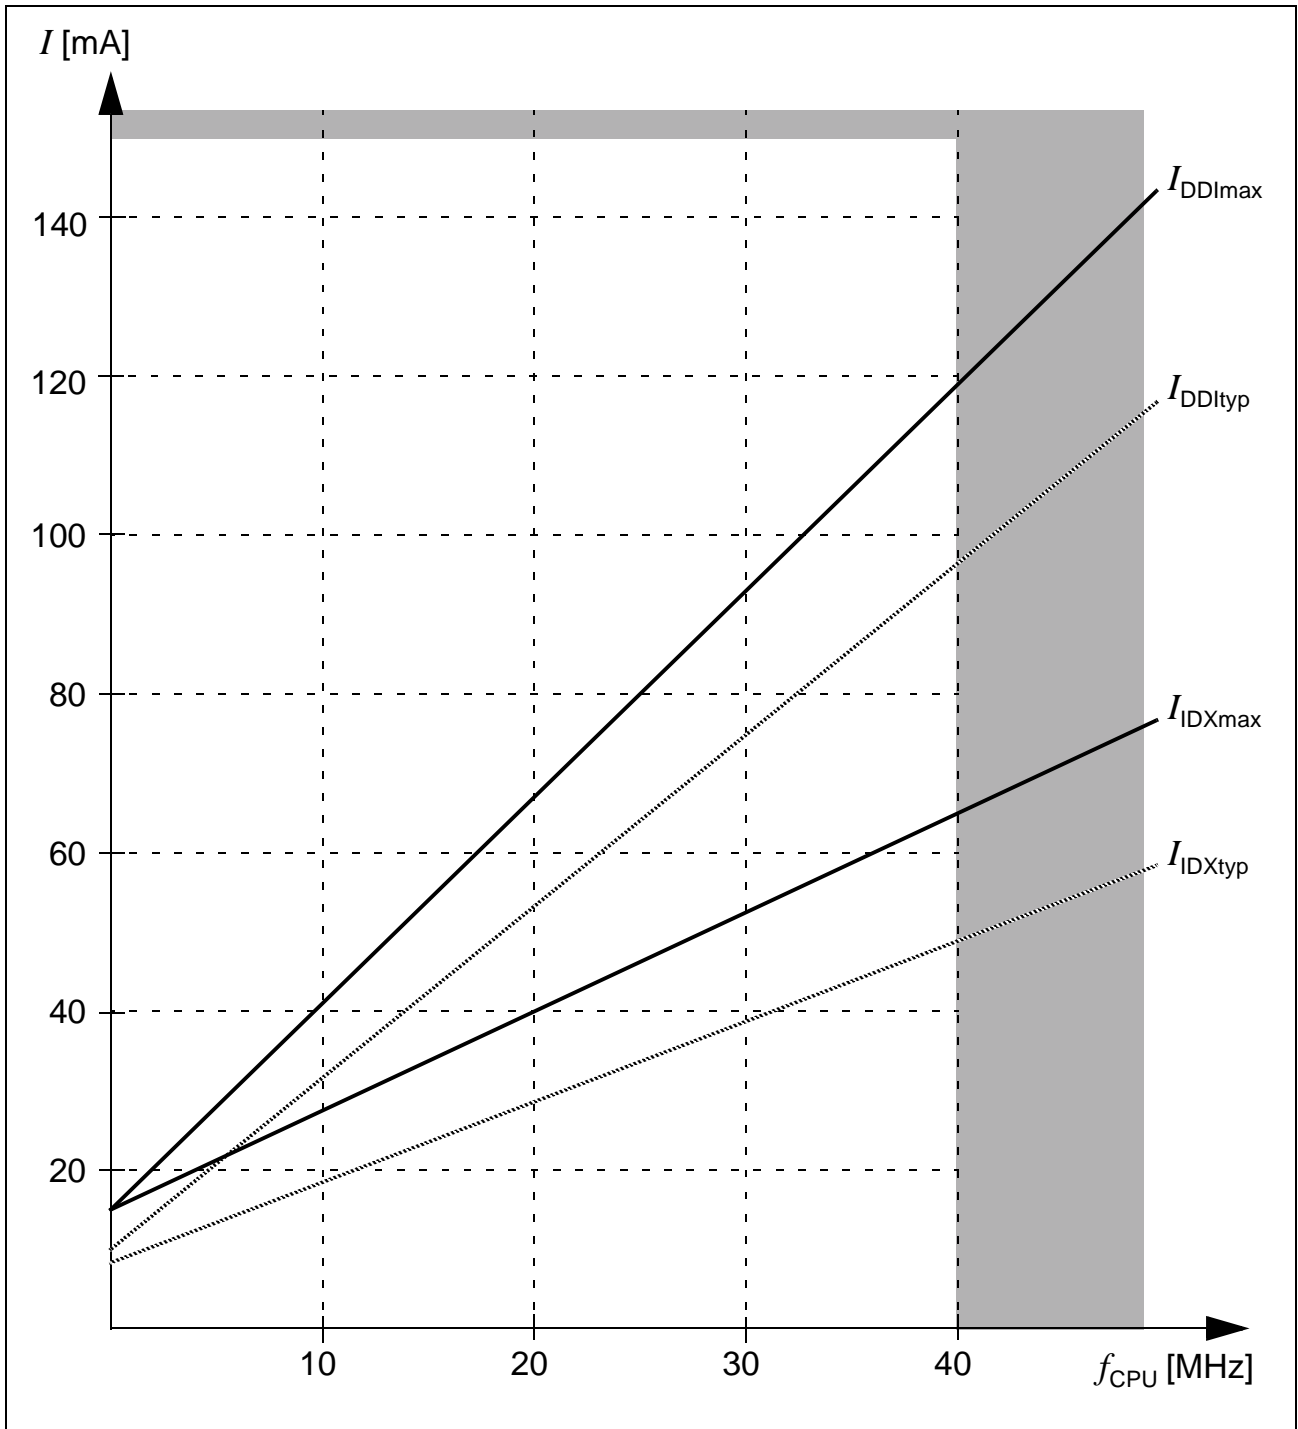

Figure 11 Supply/Idle Current as a Function of Operating Frequency
- 2) The supply current is a function of the operating frequency. This dependency is illustrated in Figure 11. These parameters are tested at  $V_{DDImax}$  and maximum CPU clock frequency with all outputs disconnected and all inputs at  $V_{IL}$  or  $V_{IH}$ .